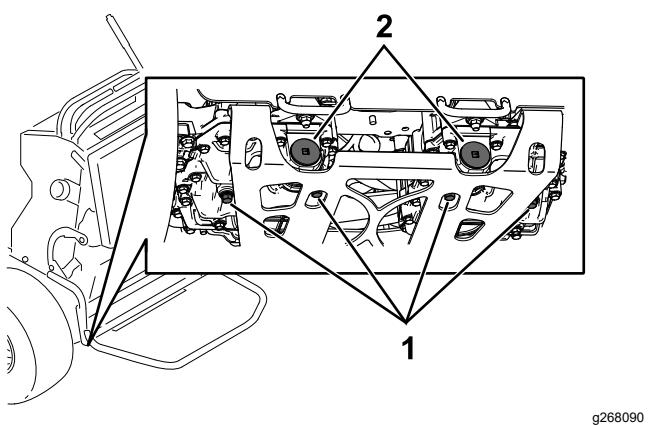

Figure 75
5. Locate the drain plug in the bottom of each transmission and place a drain pan under the plugs (Figure 75).